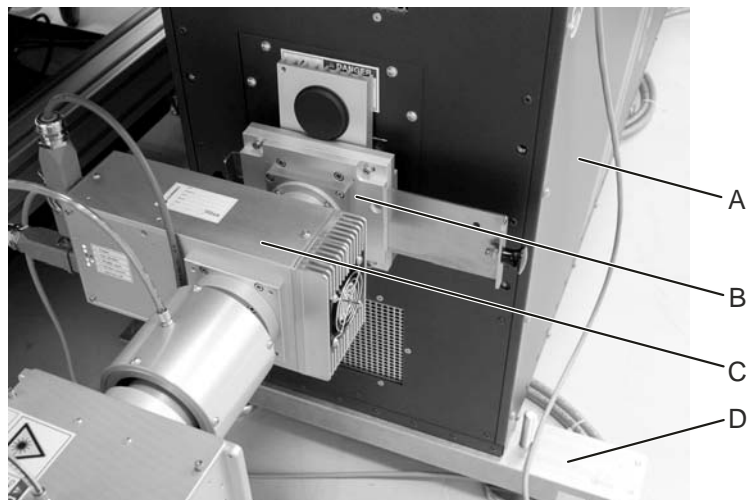

Figure 16: Laser device before de-installation (example)
In combination with the VarioLas Standard ECO/PRO, the laser device (see Figure 16, A) is mounted on two traverses (D).
1. Disconnect the mechanical shutter (B) from the laser device.
2. Disconnect the mechanical shutter from the Electromagnetic Shutter (see Figure 16, C).